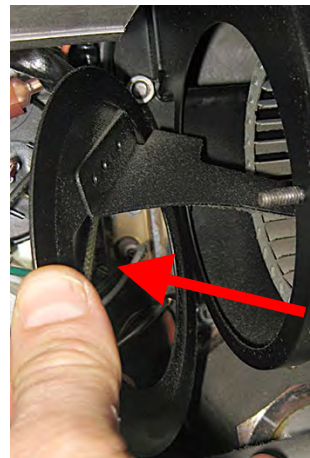

Figure 4
4. Remove the diverter behind the grill by pulling out at an angle (see Figure 4).